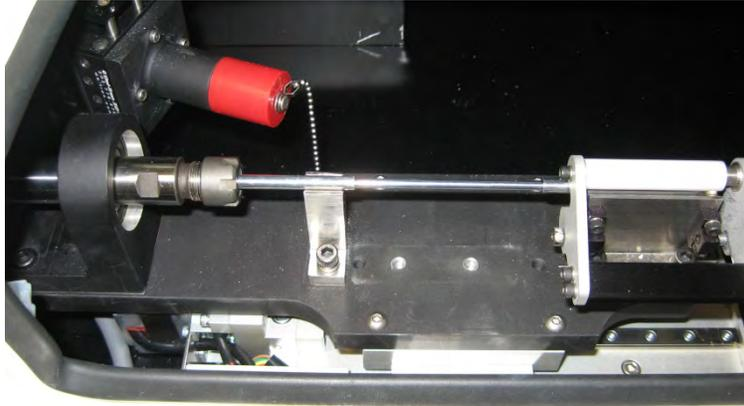

Figure 9 – Heater Tube Installation
7. Slowly release the tension arm so that the white area is in contact with the heater tube (figure 9). Gently push down on the white portion of the tension arm so that it makes good contact with the heater tube.